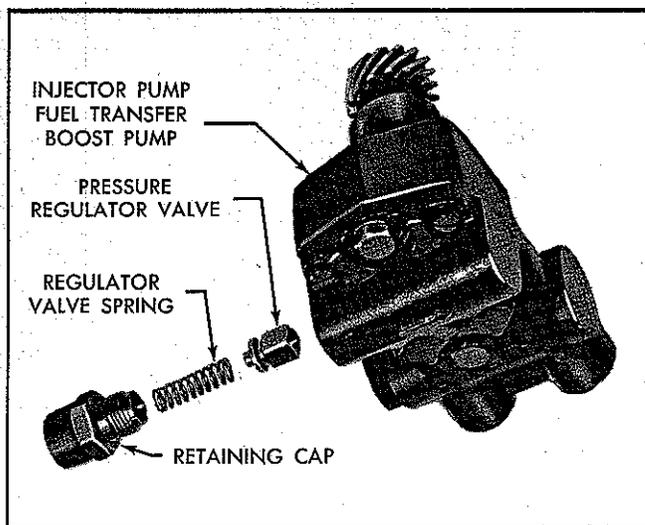

Figure 30
- (1) Remove the fuel pressure regulator valve and spring, located in the cover plate of the fuel transfer boost pump, Figure 30. Inspect the valve and spring assembly for evidence of sticking due to dirt or rust caused by water and/or contaminated fuel.